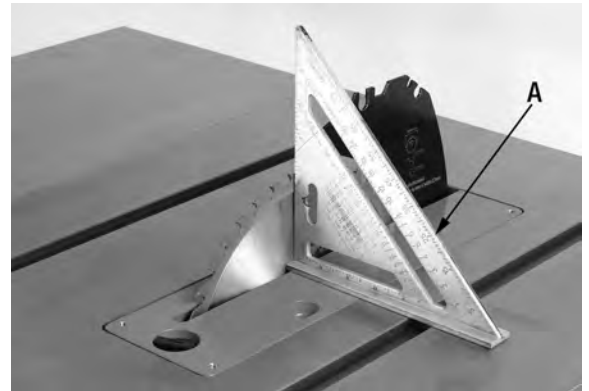

FIGURE 29
- 3) Place a combination square (A) Fig.29 on the table and verify that blade is set at a perfect 90° to table. Make sure the combination square is placed flat against blade surface and not touching a blade tooth.